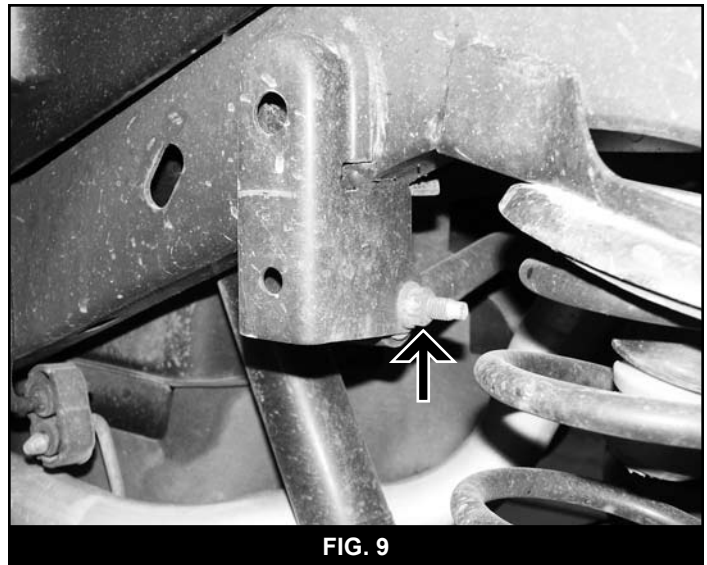

FIG. 9
4. Disconnect the track bar at the passenger's side frame (Fig 9). Retain hardware.